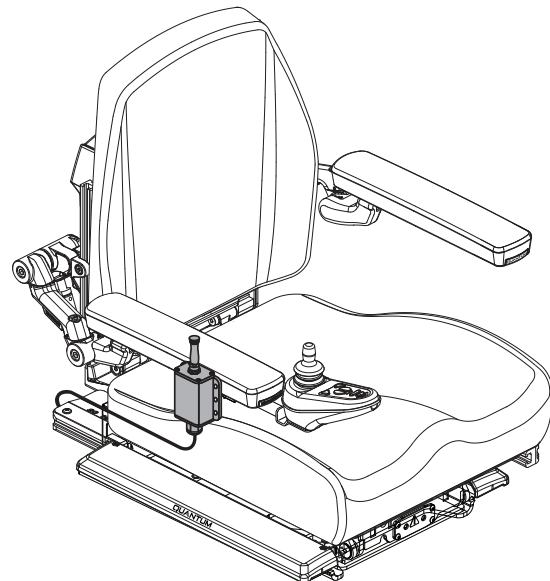

Figure 16. Power Elevating Seat Toggle Switch
1. Press forward on the toggle switch to raise the seat. **See figure 16.**